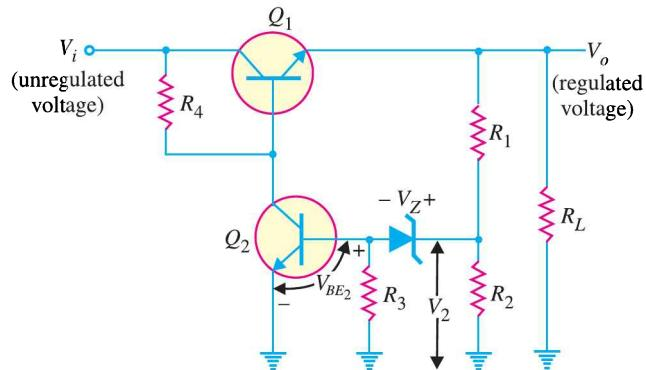

Fig. 17.33
3. What regulated output voltage is provided by the circuit of Fig. 17.33 for circuit elements : $R_1 = 20\text{ k}\Omega$, $R_2 = 30\text{ k}\Omega$ and $V_Z = 8.3\text{V}$? [15 V]